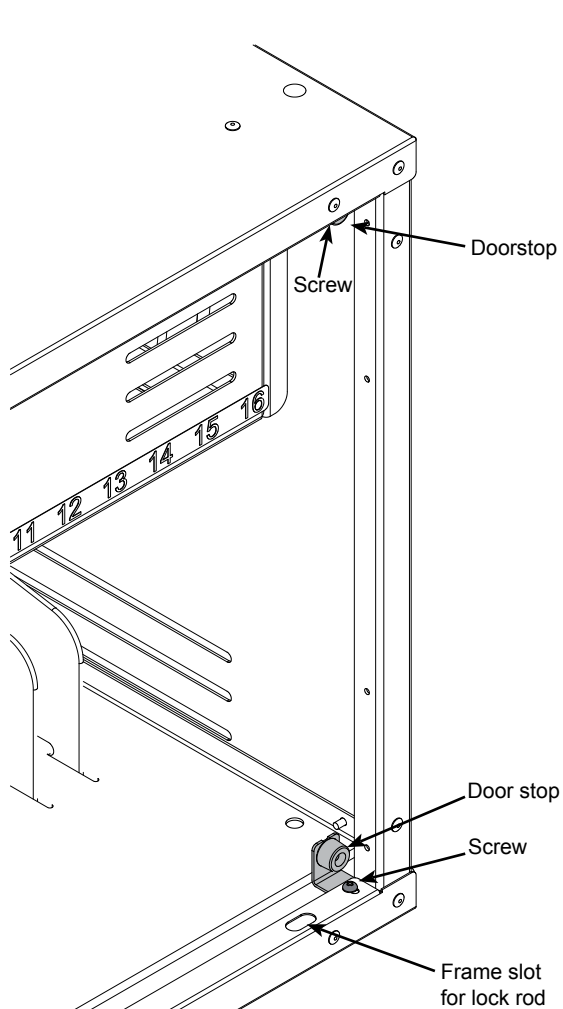

Figure 6B
3. Remove the two door stops. **Figure 6B.** Re-attach stops on the opposite side of the cabinet.
4. Flip the door around and attach to the opposite side of the cabinet with the (5) previously removed screws and tighten securely.